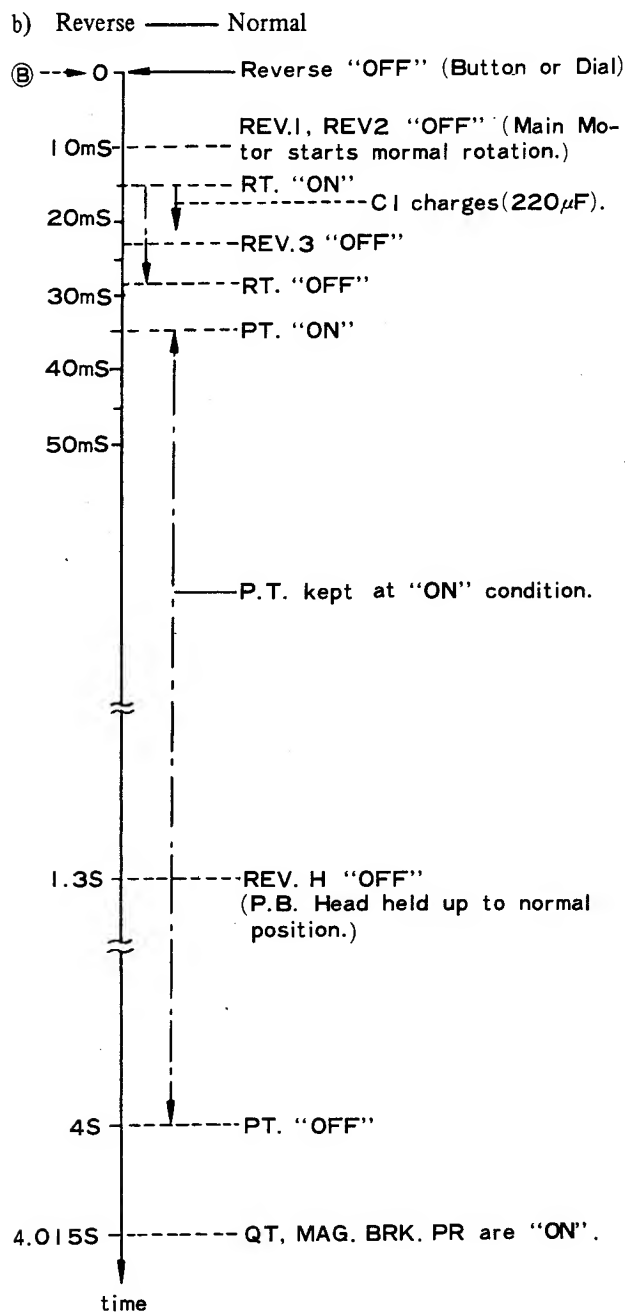

Fig. 9
Reverse Circuit current is cut off at point (B), but REV1 and REV2 remain engaged for approximately 10 milliseconds. As REV1 is disengaged, the Main Motor starts rotating in the Normal direction. When the current in the Reverse Circuit is cut off, the 33 μ F Condenser, which in series connects to the RT Relay and charged during Reverse Play, is discharged through the RT Relay Coil and the 650 Ω Resistor. The Dischargee Time is about 28 milliseconds. Thus, the RT Relay remains engaged approximately 13 milliseconds. (See Figure 9) RT1 normally open contact is closed and Condenser C1 (220 μ F) is charged in approximately 5 milliseconds.